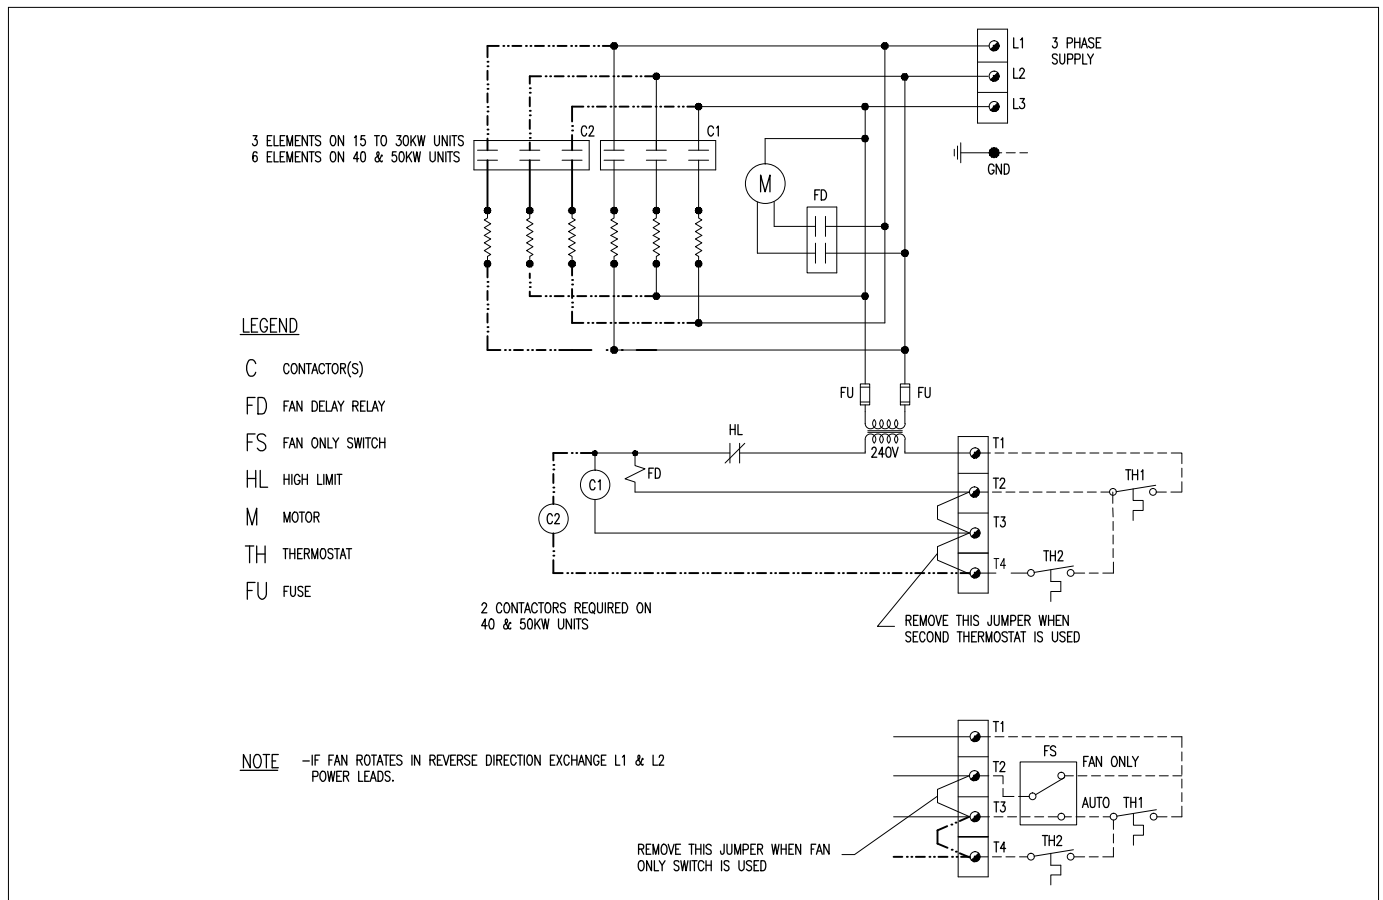
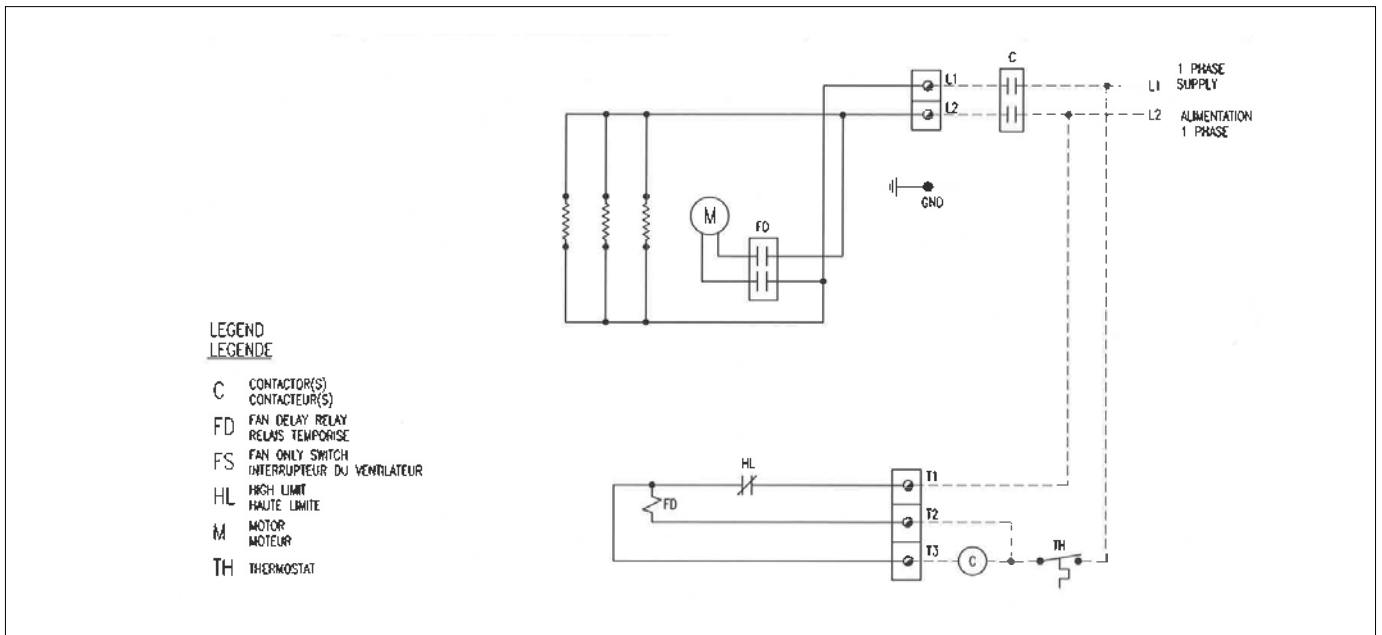

Figure 2A - 480V and 600V with Controls
Figure 2E - 240V Single Phase without Controls
If the wiring schematics from Figure 2A, page 6 through Figure 2E, page 8, do not match your configuration, check inside the control panel door of the unit for specific wiring schematic. Alternatively, all wiring schematics are available online at www.ruffneck.com.
1. To operate heater, ensure power supply is properly connected as specified in the wiring schematic (refer to Figure 2A, page 6 through Figure 2E, page 8,).